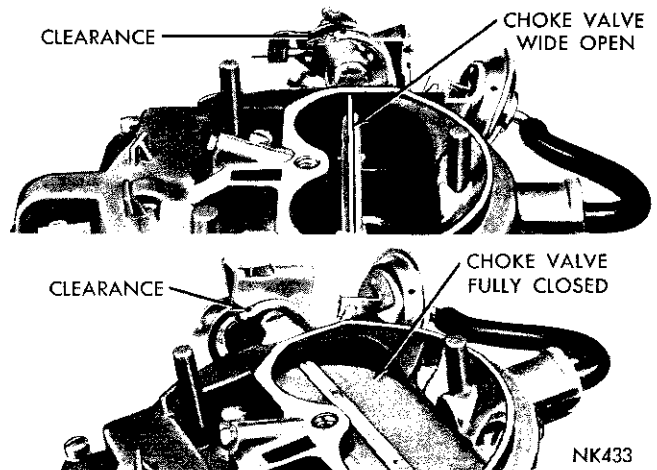

Fig. 20—Choke Operating Link Clearances
(8) With no vacuum applied to the diaphragm, some clearance should exist between the choke operating link and the choke lever slot, in both the open and closed choke valve positions, as shown in (Fig. 20).